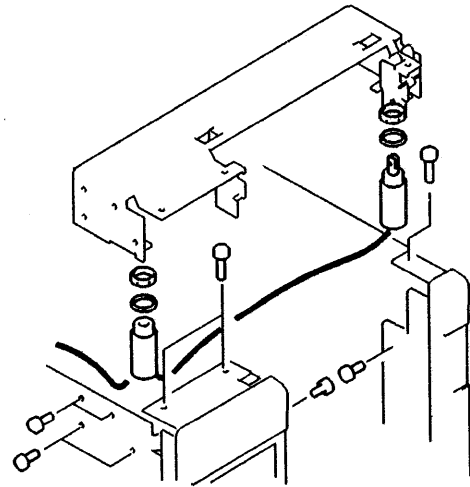

Figure 11-2. Modified Door Latch Mechanism
- In later models the connecting bar was removed, and the left-hand solenoid, although still fitted, was no longer mechanically connected to the door latch mechanism (see figure 11-2).